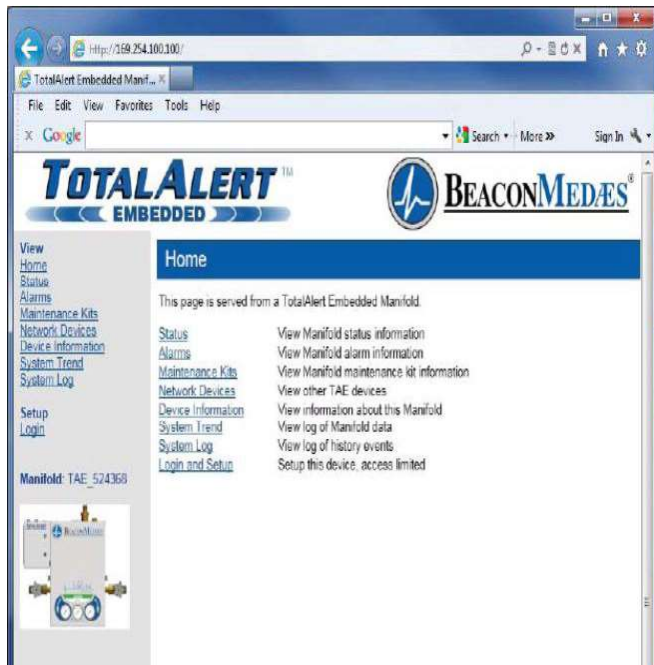

Figure 35: Manifold Home Page
1. Once connected to the TotalAlert Embedded control system, your browser will display the typical home page (Figure 35).